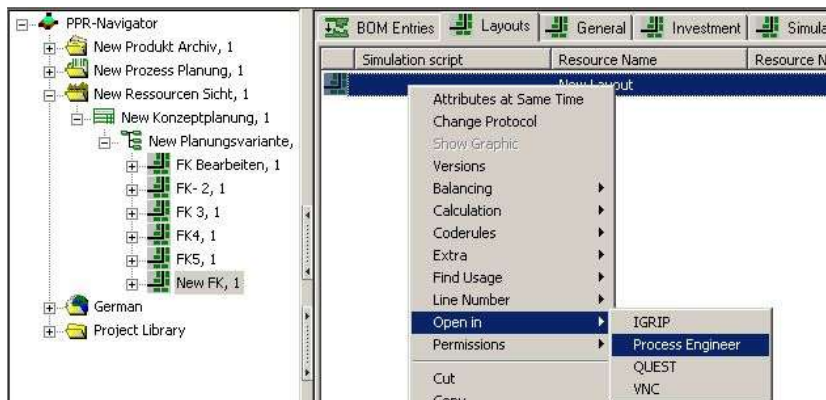

Figure 68: Switch from the Display Area to the Resources
- 4) Select the layout and open the contextual menu. Select **Open in Process Engineer**. Please refer to the Figure 68.